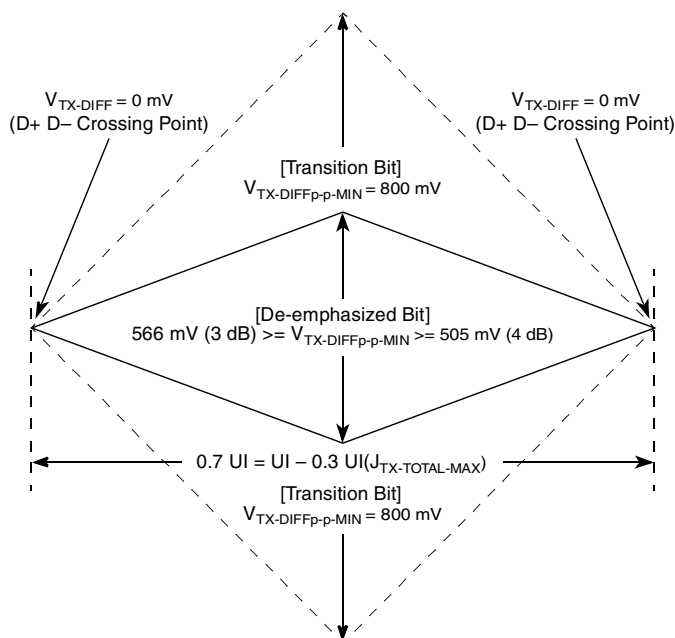
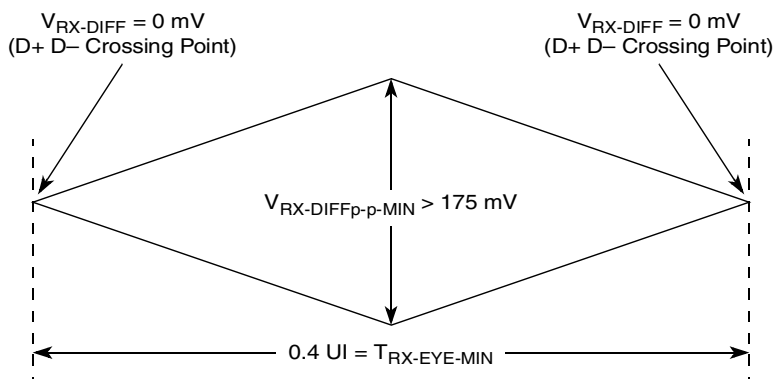
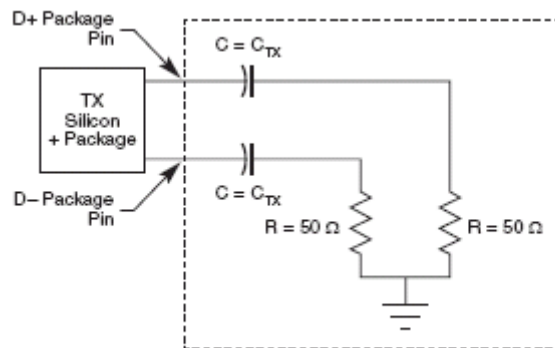

Figure 50. Minimum Transmitter Timing and Voltage Output Compliance Specifications
Figure 51. Minimum Receiver Eye Timing and Voltage Compliance Specification
Figure 52. Compliance Test/Measurement Load
2. Specified at the measurement point into a timing and voltage compliance test load as shown in Figure 52 and measured over any 250 consecutive TX UIs. (Also refer to the transmitter compliance eye diagram shown in Figure 50.)
4. The transmitter input impedance shall result in a differential return loss greater than or equal to 12 dB and a common mode return loss greater than or equal to 6 dB over a frequency range of 50 MHz to 1.25 GHz. This input impedance requirement applies to all valid input levels. The reference impedance for return loss measurements is 50  $\Omega$  to ground for both the D+ and D– line (that is, as measured by a vector network analyzer with 50- $\Omega$  probes, see Figure 52). Note that the series capacitors,  $C_{\text{TX}}$ , is optional for the return loss measurement.
5. Measured between 20%–80% at transmitter package pins into a test load as shown in Figure 52 for both  $V_{\text{TX-D+}}$  and  $V_{\text{TX-D-}}$ .
The TX eye diagram in Figure 50 is specified using the passive compliance/test measurement load (see Figure 52) in place of any real PCI Express interconnect + RX component. There are two eye diagrams that must be met for the transmitter. Both diagrams must be aligned in time using the jitter median to locate the center of the eye diagram. The different eye diagrams differ in voltage depending on whether it is a transition bit or a de-emphasized bit. The exact reduced voltage level of the de-emphasized bit is always relative to the transition bit.
2. Specified at the measurement point and measured over any 250 consecutive UIs. The test load in Figure 52 should be used as the RX device when taking measurements (also refer to the receiver compliance eye diagram shown in Figure 51). If the clocks to the RX and TX are not derived from the same reference clock, the TX UI recovered from 3500 consecutive UI must be used as a reference for the eye diagram.
4. The receiver input impedance shall result in a differential return loss greater than or equal to 15 dB with the D+ line biased to 300 mV and the D– line biased to –300 mV and a common mode return loss greater than or equal to 6 dB (no bias required) over a frequency range of 50 MHz to 1.25 GHz. This input impedance requirement applies to all valid input levels. The reference impedance for return loss measurements for is 50  $\Omega$  to ground for both the D+ and D– line (that is, as measured by a vector network analyzer with 50- $\Omega$  probes, see Figure 52). Note that the series capacitors,  $C_{TX}$ , is optional for the return loss measurement.
The RX eye diagram in Figure 51 is specified using the passive compliance/test measurement load (see Figure 52) in place of any real PCI Express RX component. In general, the minimum receiver eye diagram measured with the compliance/test measurement load (see Figure 52) is larger than the minimum receiver eye diagram measured over a range of systems at the input receiver of any real PCI Express component. The degraded eye diagram at the input Receiver is due to traces internal to the package as well as silicon parasitic characteristics which cause the real PCI Express component to vary in impedance from the compliance/test measurement load. The input receiver eye diagram is implementation specific and is not specified. RX component designer should provide additional margin to adequately compensate for the degraded minimum Receiver eye diagram (shown in Figure 51) expected at the input receiver based on an adequate combination of system simulations and the return loss measured looking into the RX package
The reference impedance for return loss measurements is 50. to ground for both the D+ and D- line (that is, as measured by a Vector Network Analyzer with 50. probes—see Figure 52). Note that the series capacitors,  $C_{PEACCTX}$ , are optional for the return loss measurement.
The AC timing and voltage parameters must be verified at the measurement point, as specified within 0.2 inches of the package pins, into a test/measurement load shown in Figure 52.